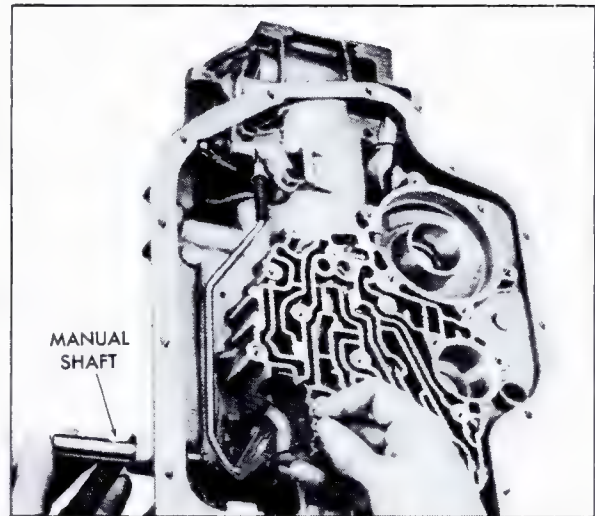

Fig. 7-114 Installing Manual Shaft
4. Install manual shaft assembly into case and through detent lever, Fig. 7-114.